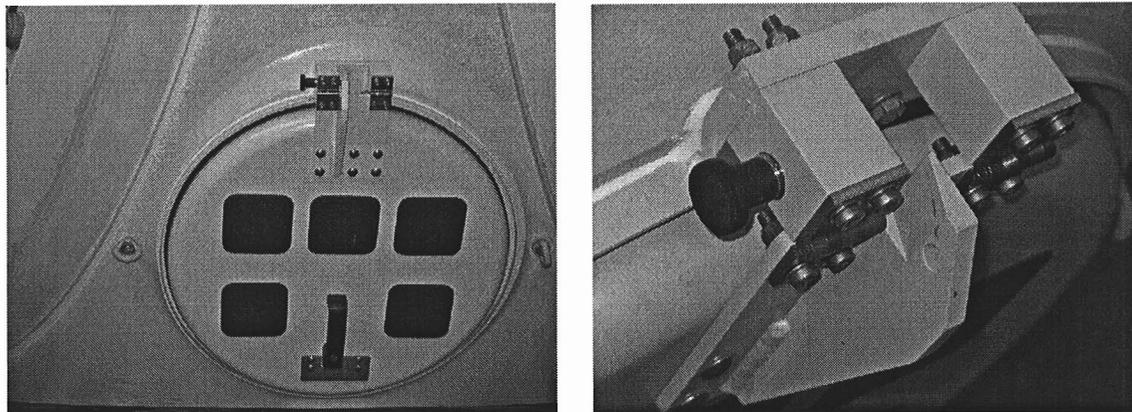

Fig. 85 Access hatch rotor hub
- Open the access hatch, see Fig.85